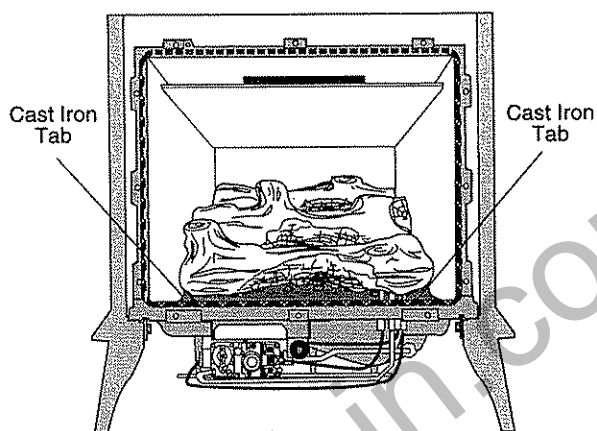

Figure 30. Align the Logset with the screws on the burner plate.
1. The logs are pre-assembled and install as a unit. Center the Log Set on the burner behind the cast iron tabs. The Logs must set tight against the top of the burner plate. Fig 30.